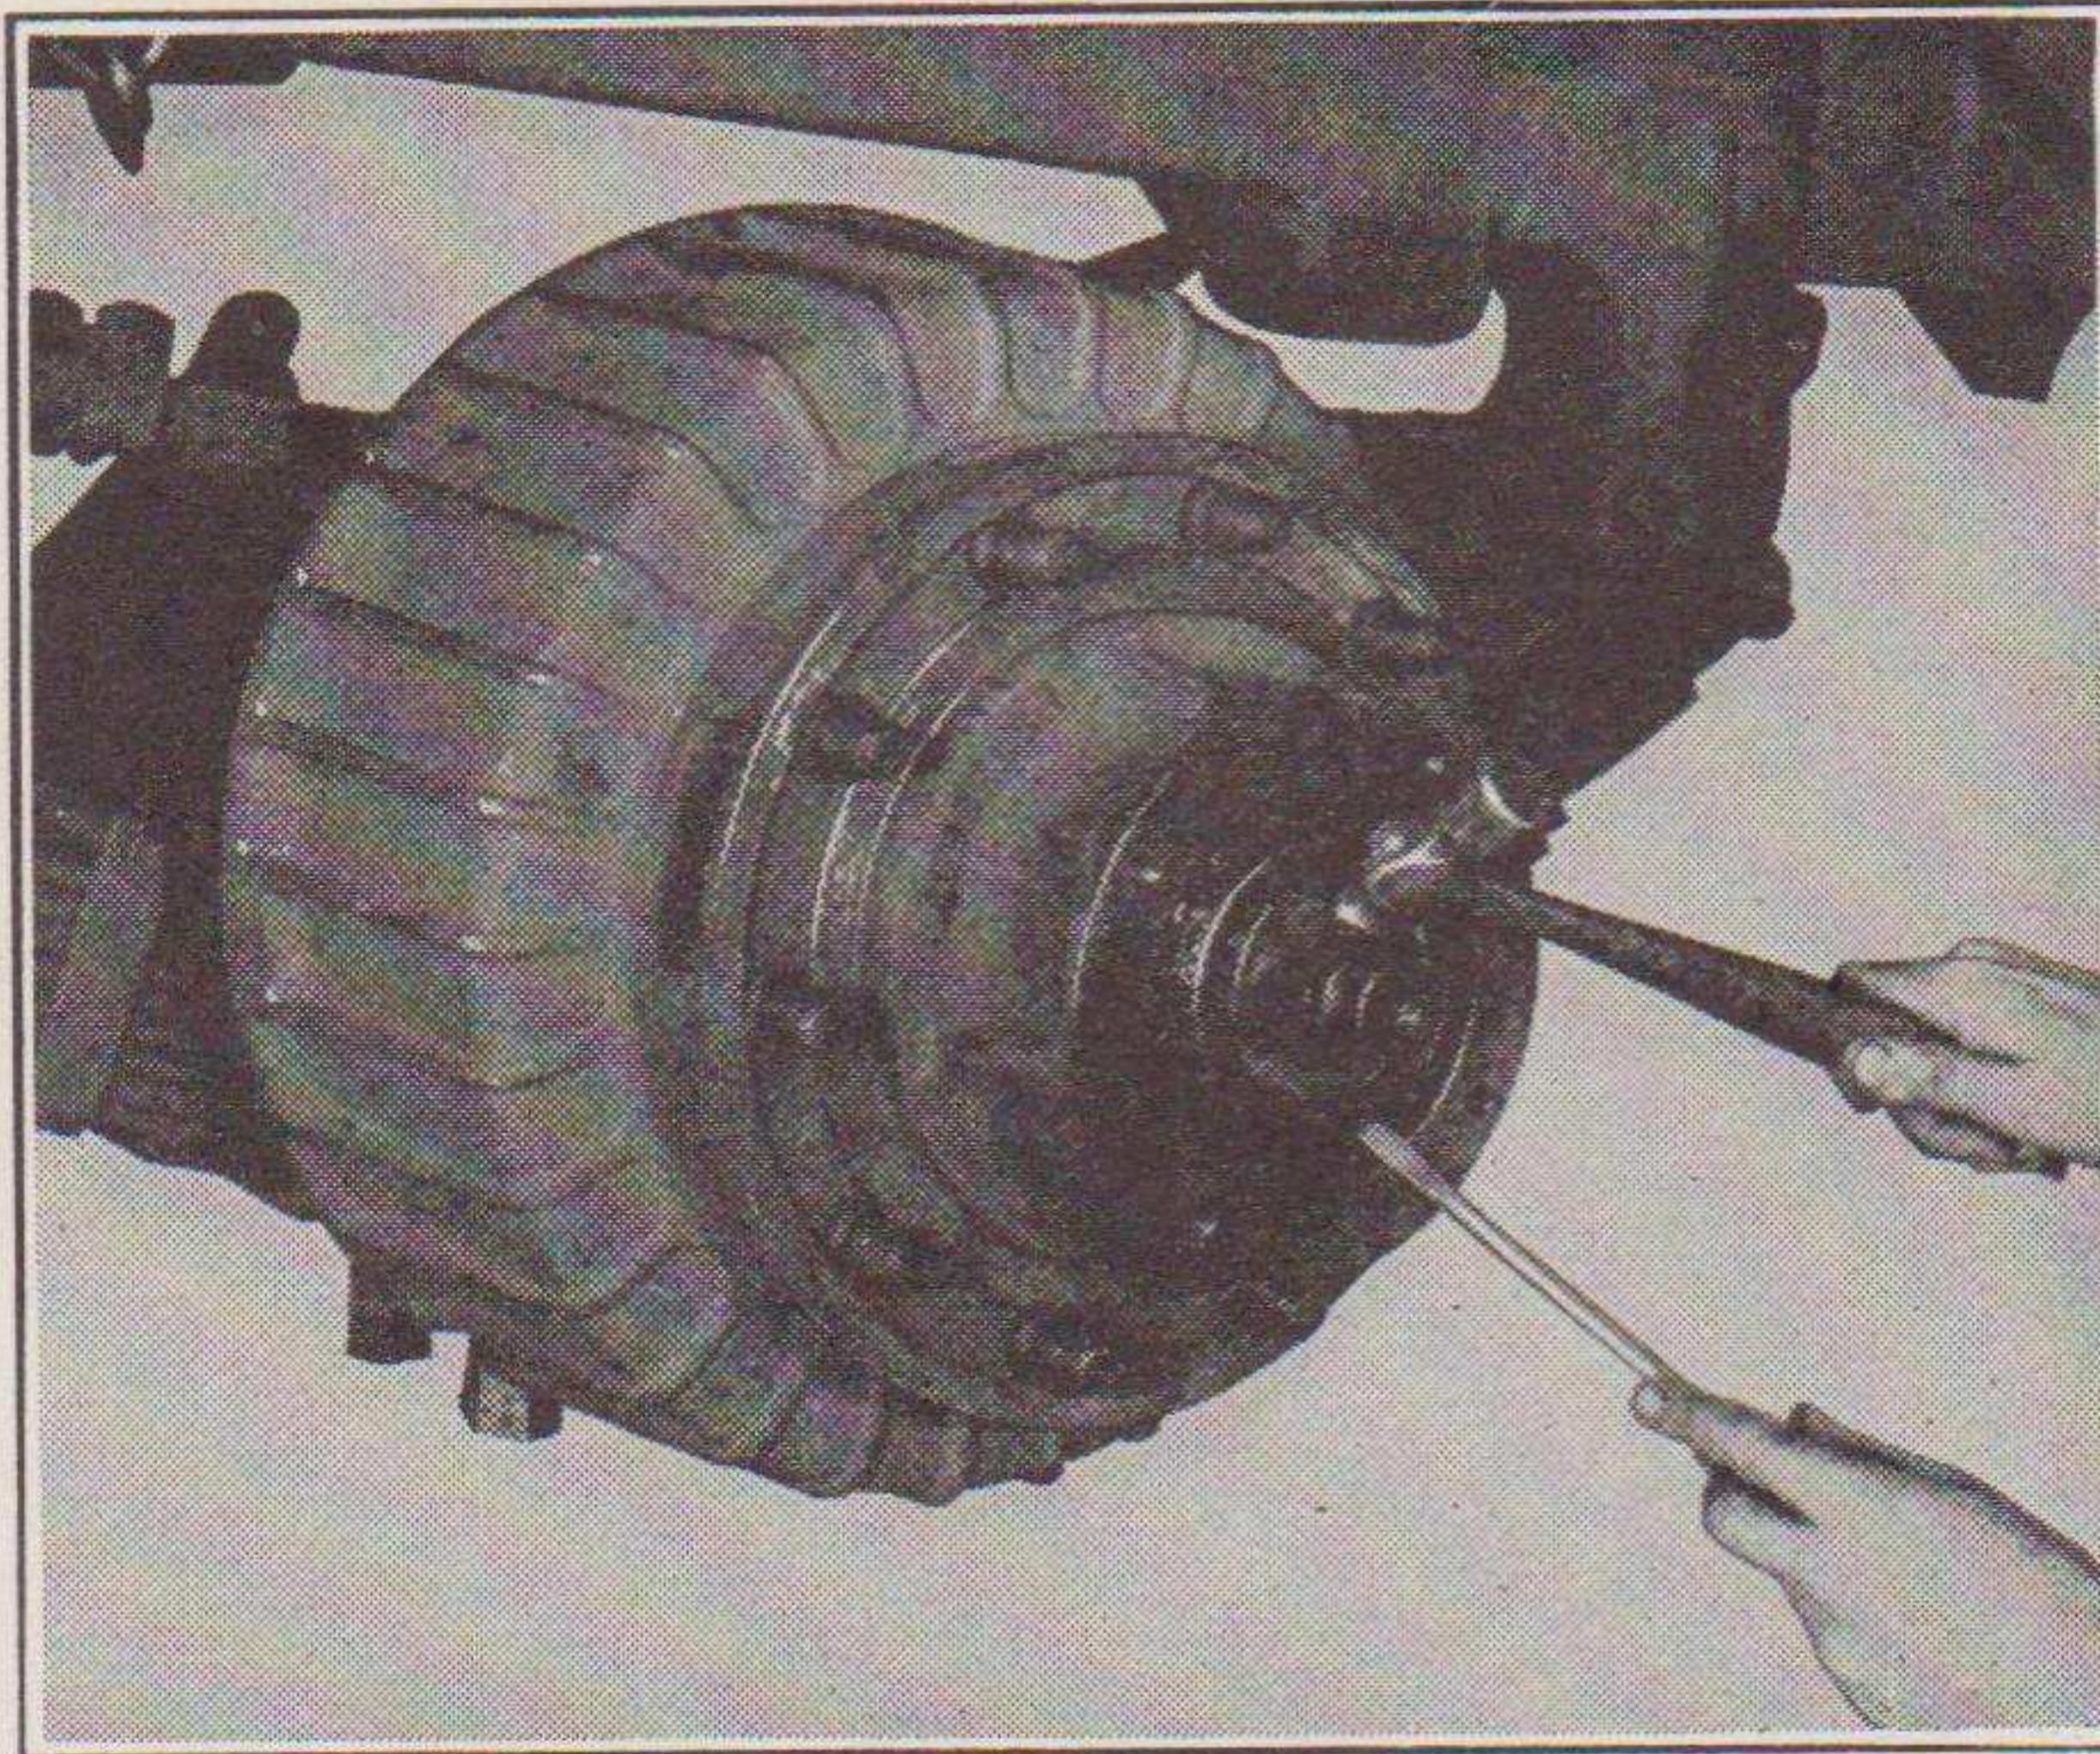

FIGURE 39. REMOVING D. WASHER
(2) Take out the four cap screws on the hub cap, pull the cotter key from the axle nut and remove the axle nut by turning it in a counter-clockwise direction.
(3) Now place a screw driver under the outer bearing, pry gently and tap D washer with a hammer as illustrated in Figure 39. The D washer and bearing may also be removed as the hub is pulled off.
(4) Pull the hub off. If the hub will not slide off freely once the outer bearing is removed, it is usually because the brake shoes are dragging. This drag is easily removed by slacking off the brake adjustment through counter-clockwise movement of the slack adjuster, adjusting nut.
8. REMOVING HUB ASSEMBLY, FRONT AXLE (Refer to Figure 39).—*a.* To remove the axle hub assembly from the axle, proceed as follows:
(1) Hoist the front end by connecting the chain to the front crossmember of the gear frame.
(2) Place a greased steel plate or wood plank under both dual tires to utilize as a skid for the removal of hub and wheel assembly in one unit. The hub assembly with wheel intact is too heavy and cannot easily be removed otherwise.
(3) Take out the four cap screws in hub cap, pull the cotter key from the axle nut and remove the axle nut by turning the nut in a counter-clockwise direction.
(4) Now place a screw driver under the outer bearing, pry gently and tap D washer with a hammer. (See Figure 39.) The D washer and bearing may also be removed as the wheel assembly is pulled off.
(5) Pull the wheel off, using the greased skid plate to facilitate its removal.